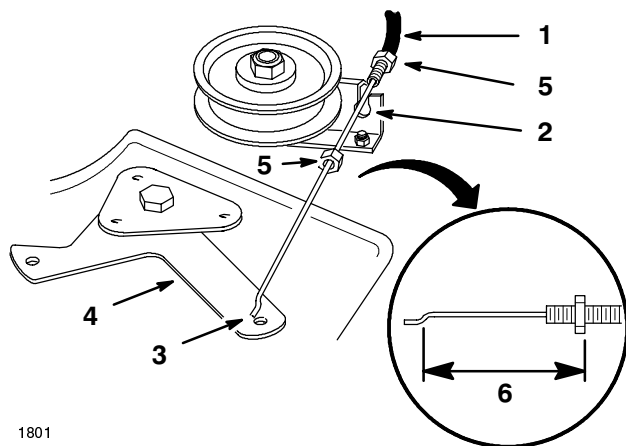

Figure 47
13. Thread first jam nut onto the blade control (PTO) cable all the way. Rout cable through slot in deck bracket and thread second jam nut onto cable (Fig. 47).
14. Hook Z end of blade control (PTO) cable into bellcrank arm (Fig. 47).
15. Engage blade control (PTO) lever on dash. Measure distance between Z end of cable and mounting bracket (Fig. 47). Adjust jam nuts so 3-1/2" (89 mm) dimension is obtained (Fig. 47).